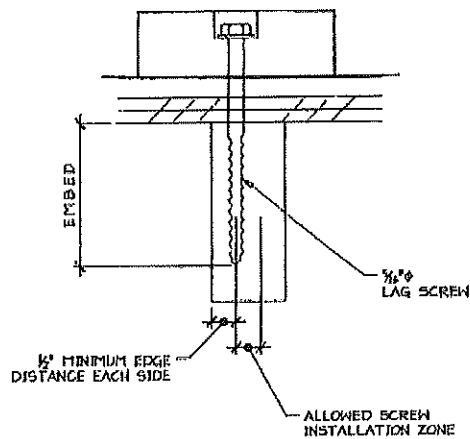

Figure 3. Typical Anchor with Lag Screw Attachment.
- 1) Anchor fastener data (see Figure 3):